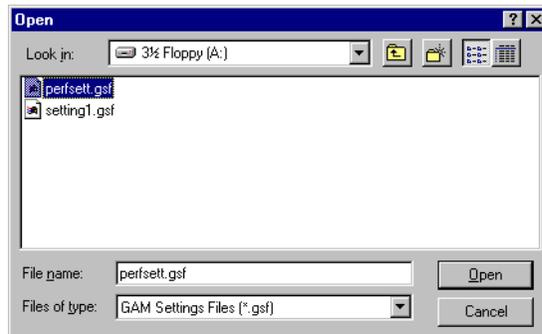

Figure 5-34. Open Previously Saved Settings
1. Click Open Settings. An Open dialog box is displayed (Figure 5-34).